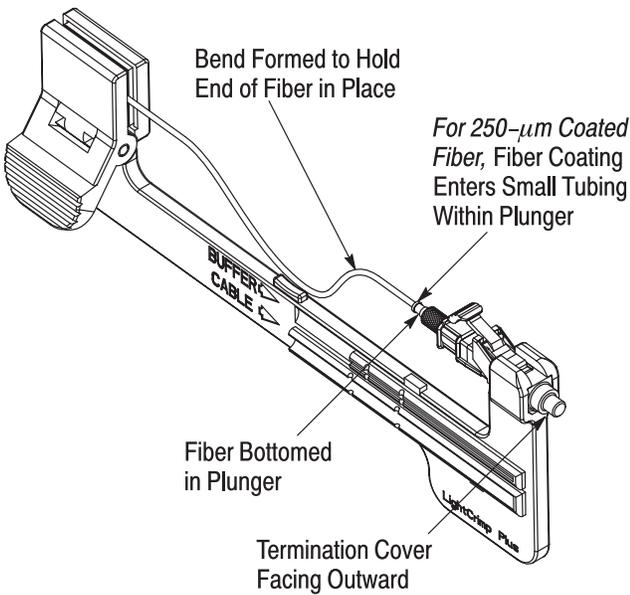
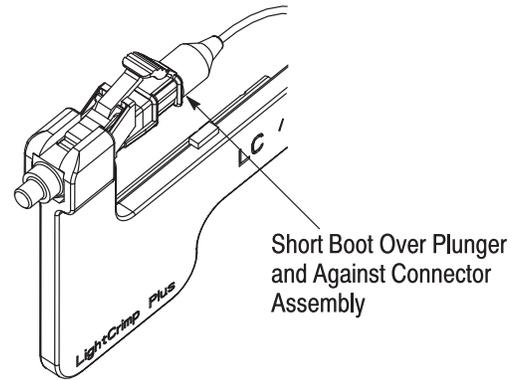

**Figure 4: Crimping**
**Figure 5: Crimping**
**C. Crimping** (Figures 4 and 5)
1. Open the cable clamp of the cable holder assembly, and position the fiber (with the cleaved end facing the connector) inside the clamp. Move the buffer so that the end of the fiber is even with the front of the arm of the cable holder assembly, and holding the buffer in place, close the clamp. See Figure 4, Detail A.
2. Carefully insert the fiber into the plunger of the connector assembly until the fiber bottoms against the internal fiber. Make sure that the remaining mark on the buffer enters the plunger. The resultant bend in the fiber should hold the fiber against the internal fiber. See Figure 4, Detail B.
4. With the connector assembly in the cable holder assembly, position the termination cover in the upper cavity of the front die and the plunger in the upper cavity of the rear die. See Figure 4, Detail C.
*The arrows marked on the front die indicate the direction that the termination cover must be pointing when the connector is positioned in that cavity. For proper placement, and to avoid damage to the fiber, observe the direction of the arrows. Refer to Figure 4, Detail C and Figure 5, Detail A.*
6. Position the plunger of the connector assembly in the cavity of the front die with the knurl against the edge of the groove in the die and the termination cover pointing in the direction of the arrow. See Figure 5, Detail A.
8. Open the cable clamp of the cable holder assembly, and remove the fiber from the clamp. Slide the short boot over the plunger until it butts against the connector assembly. See Figure 5, Detail B.
10. For the duplex connector kit, refer to Figure 5, Detail C, and install the duplex clip as follows:
### C. Crimping (Figures 4 and 5)
1. Open the cable clamp of the cable holder assembly, and position the fiber (with the cleaved end facing the connector) inside the clamp. Move the fiber so that the end of the stripped fiber is even with the front of the arm of the cable holder assembly, and holding the fiber in place, close the clamp. See Figure 4, Detail A.
2. Carefully insert the fiber into the plunger of the connector assembly until the fiber bottoms against the internal fiber. The fiber coating must enter the small tubing that was installed in Step 3 of Paragraph 5.1.A. Make sure that the start of the fiber coating is not caught on the entry of the small tubing, and that the remaining mark on the fiber enters the plunger. The resultant bend in the fiber should hold the fiber against the internal fiber. See Figure 4, Detail B.